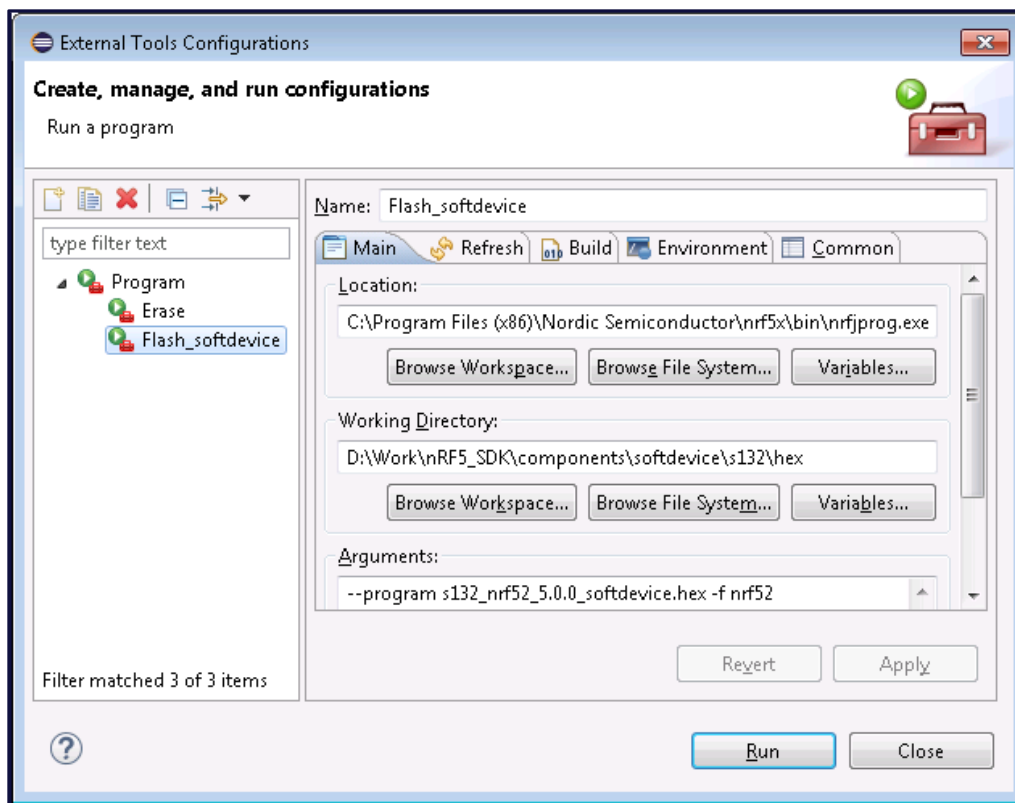

Figure 23: Adding *Flash_softdevice* to External Tools Configurations
7. Click **Apply**, then click **Run** (Figure 23).